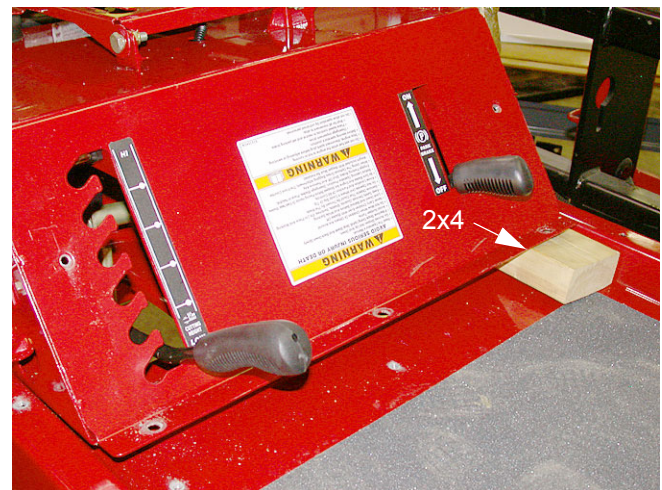

Figure 17.17
17.17. Place a piece of 2 x 4 or something equivalent under the front, left side of the seat box frame. This will allow enough clearance for deck lift assembly to slip out the back easily. See Figure 17.17.